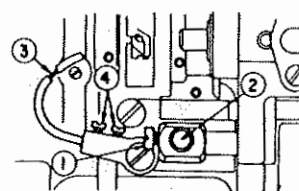
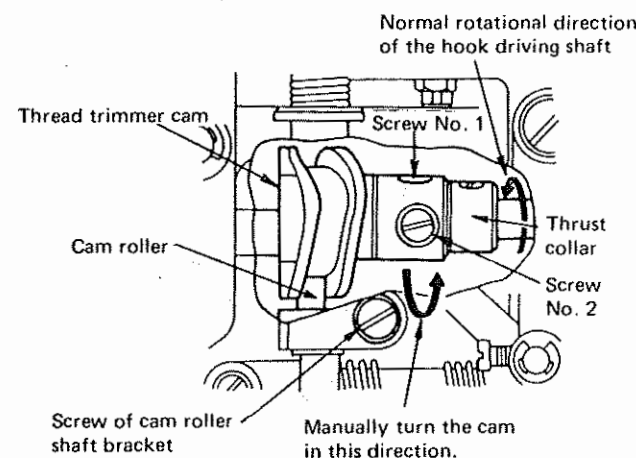
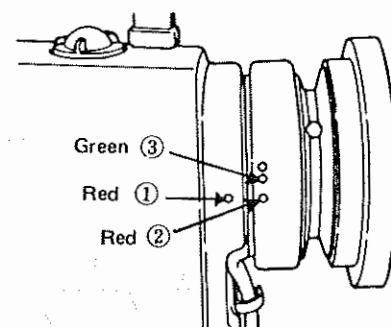
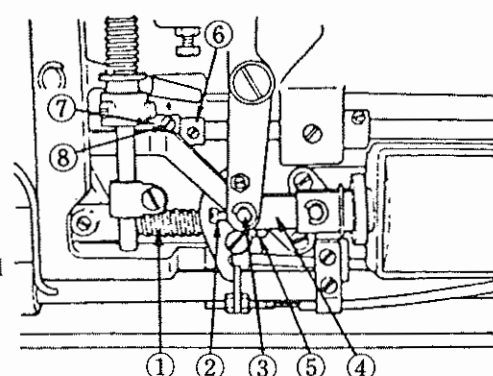

Fig. 32
Fig. 33
Fig. 34
Fig. 36
The timing of the thread trimmer cam is adjusted in order to change the length of the needle thread remaining on the needle after thread trimming. The proper timing of the thread trimmer cam for cotton or synthetic thread can be provided easily by making the engraved dots on the machine arm and hand wheel, respectively in alignment. Tilt the machine head, manually turn the hand wheel until the thread take-up lever comes a little before its highest position, and press thread take-up picker ③ in Fig. 32 to the right by your finger. This will cause the cam roller (Fig. 33) to fit in the groove of the thread trimmer cam (Fig. 33). With this condition maintained, turn the hand wheel in the direction opposite to the normal rotational direction of the machine, and you will find a position at which the hand wheel can turn no further. Then, adjust the cam timing so that engraved dot ① (Fig. 34) on the machine arm is aligned with dot ② (Fig. 34) on the hand wheel as shown in Fig. 34. This will provide the proper cam timing for cotton thread. Alignment of engraved dot ① (Fig. 34) gives the cam timing for synthetic thread.
Loosen screw No. 1 first, and then screw No. 2 (Fig. 33), and align one of the engraved dots on the hand wheel with that on the machine arm as required (Align red dot 1 with red dot 2 for cotton thread, and red dot ① with green dot ③ for synthetic thread). Fit the cam roller in the groove of the cam while pressing thread take-up picker ③ (Fig. 32) to the right. Manually turn only the cam (do not turn the hook driving shaft) in the direction opposite from the normal rotational direction of the hook driving shaft (see arrow in Fig. 33) until a position at which the cam goes no further is reached. At this position, press the cam against the thrust collar of the thread trimmer cam (Fig. 33), and retighten the screw No. 2 first and then the screw No. 1.
The position of the moving knife is adjusted by changing the lateral position of knife driving shaft ① (Fig. 36) while the machine is at a stop. When the lateral position of the knife driving shaft is changed, the engagement of the cam with the cam roller is also changed, and therefore the axial position of the thread trimmer cam must be readjusted at the same time.
① Loosen screw ② (Fig. 36), and remove link driving magnet pin ③ (Fig. 36).
② Lower magnet driving link ④ (Fig. 36), and screw in or out adjusting nut ⑤ (Fig. 36) of the knife driving shaft to adjust the retreat of the moving knife.
③ Loosen the two screws of thread trimmer cam ⑦ (Fig. 36) and thrust collar ⑥ (Fig. 36), respectively.
④ Align the engraved dot on the machine arm with one of the engraved dots on the hand wheel (Align red dot ① with red dot ② for cotton thread, and red dot ① with green dot ③ for synthetic thread as shown in Fig. 34).
⑤ Manually turn the cam until screw No. 2 ⑧ is oriented toward you. Then press the thread take-up picker to the right.
⑥ Move the cam to the right or left to engage the cam with the cam roller.
⑦ With the cam engaged with the cam roller, turn the cam in the arrow direction until it stops while lightly pulling the cam to the right.
⑧ Tighten screw No. 2 ⑧ (fig.36) of the cam for preliminary installation.
⑨ Then confirm;
⑩ Firmly tighten the two screws of the cam.
⑪ Press the thrust collar against the cam, and fix it by tightening the two screws.
⑫ Reinstall the link driving magnet pin.